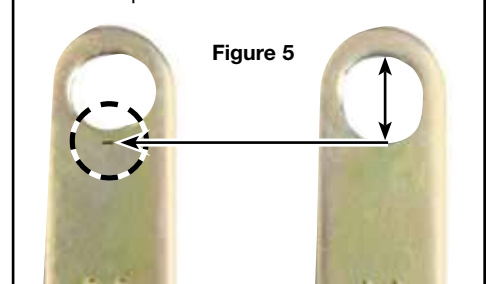

Figure 5
1. Using a suitable file or grinding tool, elongate the upper hole on the Sonnax TV corrector plate to the indicated mark shown in (**Figure 5**).